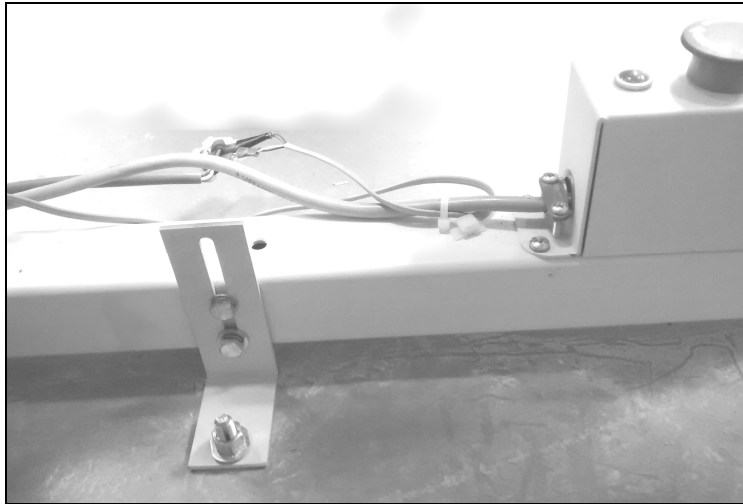

Figure 2: Front Floor Anchor Bracket (rear view)
- a. Locate and unpack the bag containing the three (3) floor brackets, two (2) bracket covers and hardware.
- b. Attach one bracket to the rear of the front frame rail with two $\frac{1}{4}$ "-20 bolts, lock washer and flat washer as shown in figure 2. With the base of the bracket flush with the floor, tighten the bolts.